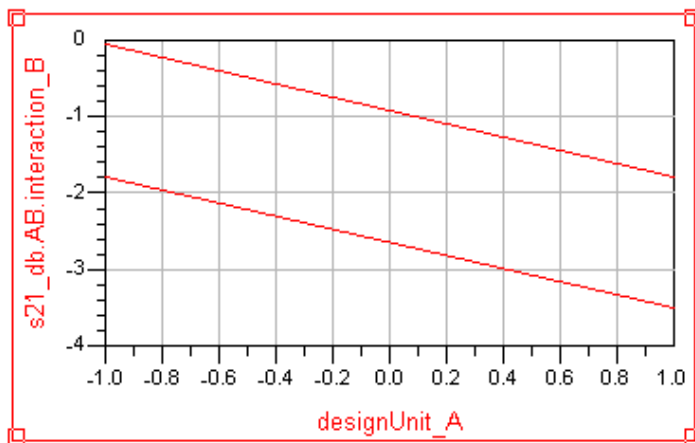

Figure 4-10. AB Interaction Diagram for S21 Measurement
5. Choose **OK**. The AB interaction diagram for DOE goal S21 appears, as shown in Figure 4-10 below.